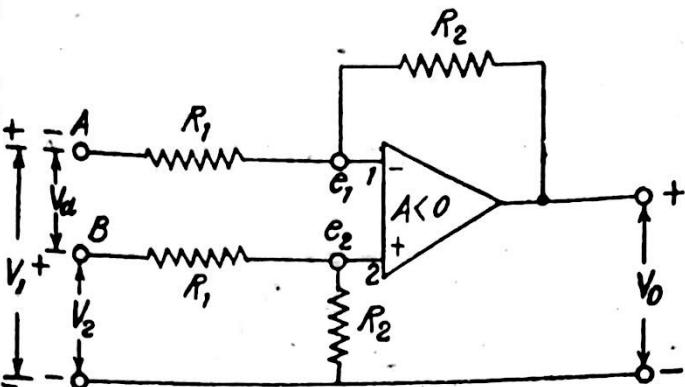

Fig. 5 (a)
In fig. 5 (a) circuit of a differential amplifier is shown. This amplifier provides the gain for differential input ($V_2 - V_1$) and rejects the input voltage common to both. The voltage e_2 , at the non-inverting terminal,
EMITTER COUPLED DIFFERENTIAL AMPLIFIER : Fig. 5 (b) shows the basic form of differential amplifier. It consists of a pair of identical transistors Q_1 and Q_2 connected to a common-emitter resistor (the tail). The current through this common resistor is called as the tail current, I_T . There are two inputs V_1 and V_2 and output, V_0 , is the voltage between the two collectors.
d.c. analysis of a differential amplifier : The d.c. equivalent of fig. 5 (b) is shown in fig. 5 (c). The differential amplifier uses emitter bias. The top of the emitter resistor is an approximate ground point so
Let us find total output voltage and CMRR in fig. 5, if inverting terminal voltage $e_1 = 1.3 \text{ mV}$, non-inverting terminal voltage $e_2 = 1.5 \text{ mV}$, $A_d = 1200$ and $A_c = 2.14$. The differential input,